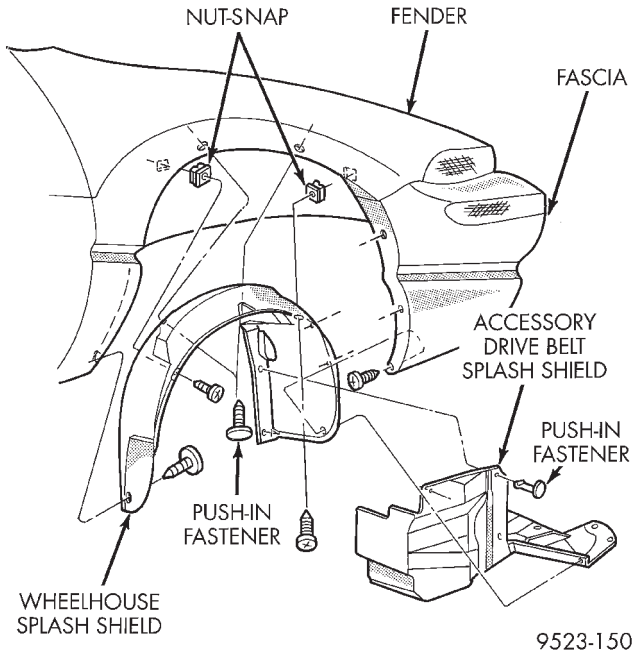

Fig. 74 Right Inner Splash Shield
- (1) Disconnect negative cable from auxiliary jumper terminal.
- (2) Remove accessory drive belts. Refer to Group 7, Cooling System for procedure.
- (3) Raise vehicle on a hoist and remove right inner splash shield (Fig. 74).
- (4) Remove right front wheel.